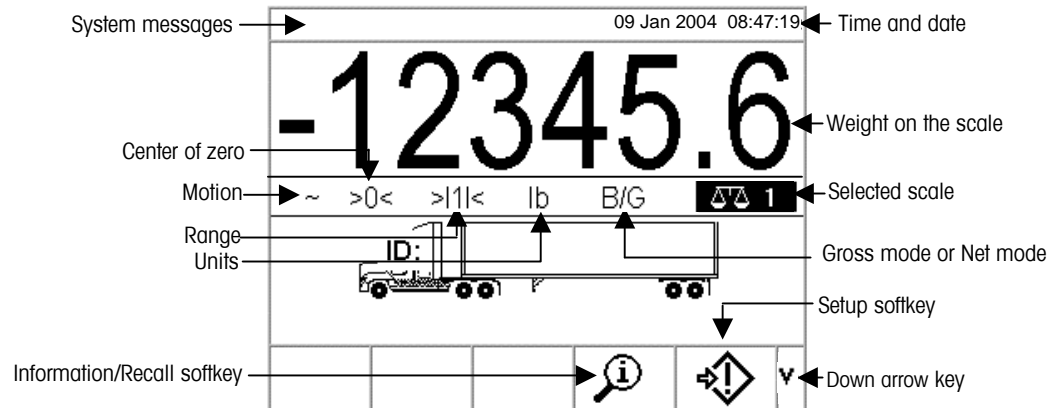
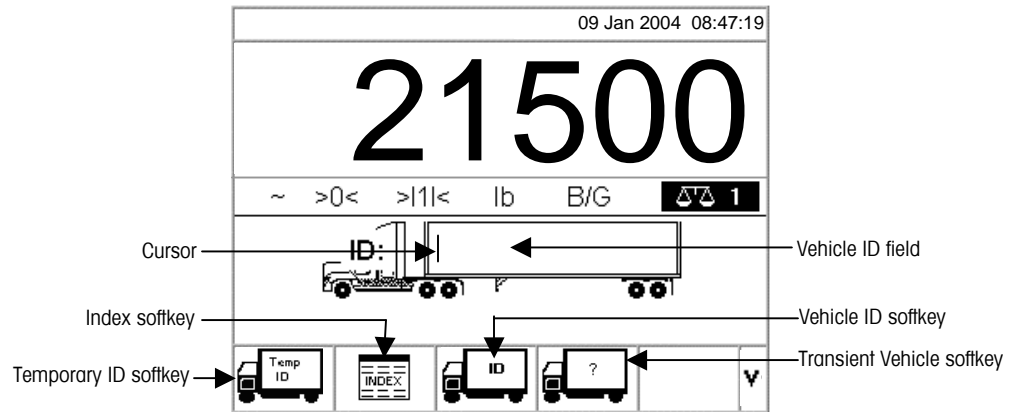

Figure 2-4: Default Weighing Operation Screen
Figure 2-5: Default Weight Screen
The default weighing operation screen displays when the application is idle (see Figure 2-4).
1. From the default weight screen (Figure 2-4), press the DOWN arrow key to display all available soffkeys (see Figure 2-5).
1. Once the vehicle is on the scale, press the TEMPORARY ID softkey (see Figure 2-5). A vehicle ID prompt displays with a cursor in the ID field. The softkeys and application keys become alpha keys (see Figure 2-3).